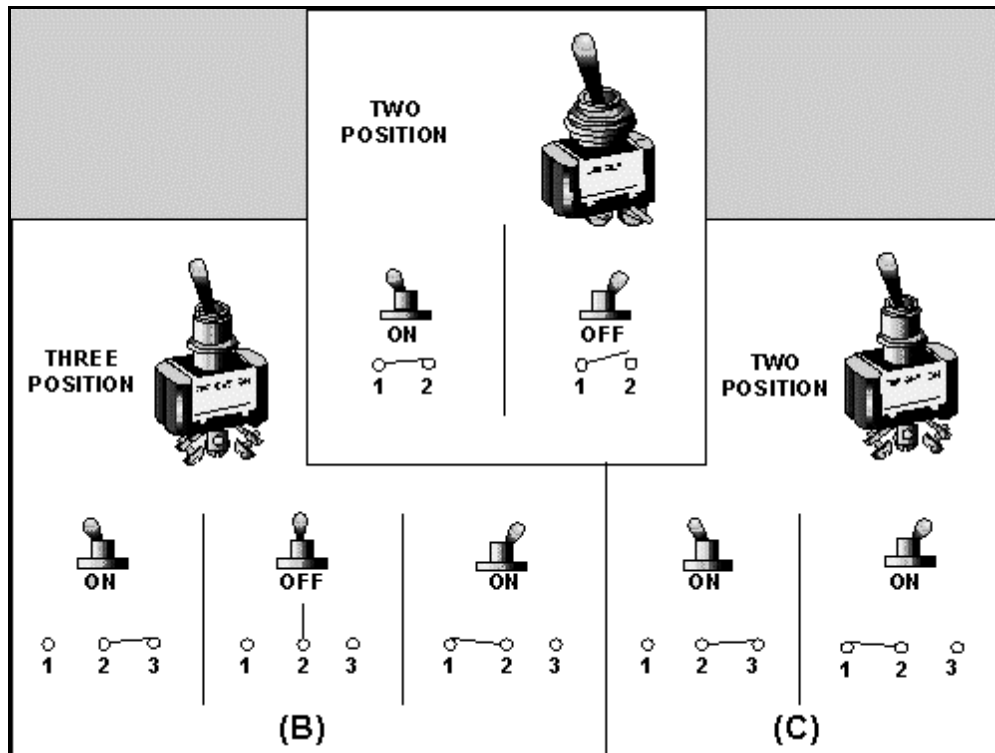

Figure 3-11.—Two- and three-position switches.
Switches are also classified by the number of positions of the actuating device. Figure 3-11 shows three toggle switches, the toggle positions, and schematic diagrams of the switch. Figure 3-11(A) is a single-pole, single-throw, two-position switch. The switch is marked to indicate the ON position (when the switch is closed) and the OFF position (when the switch is open). Figure 3-11(B) is a single-pole, double-throw, three-position switch. The switch markings show two ON positions and an OFF position. When this switch is OFF, no connection is made between any of the terminals. In either of the ON positions, the center terminal is connected to one of the outside terminals. (The outside terminals are not connected together in any position of the switch.) Figure 3-11(C) is a single-pole, double-throw, two-position switch. There is no OFF position. In either position of this switch, the center terminal is connected to one of the outside terminals.